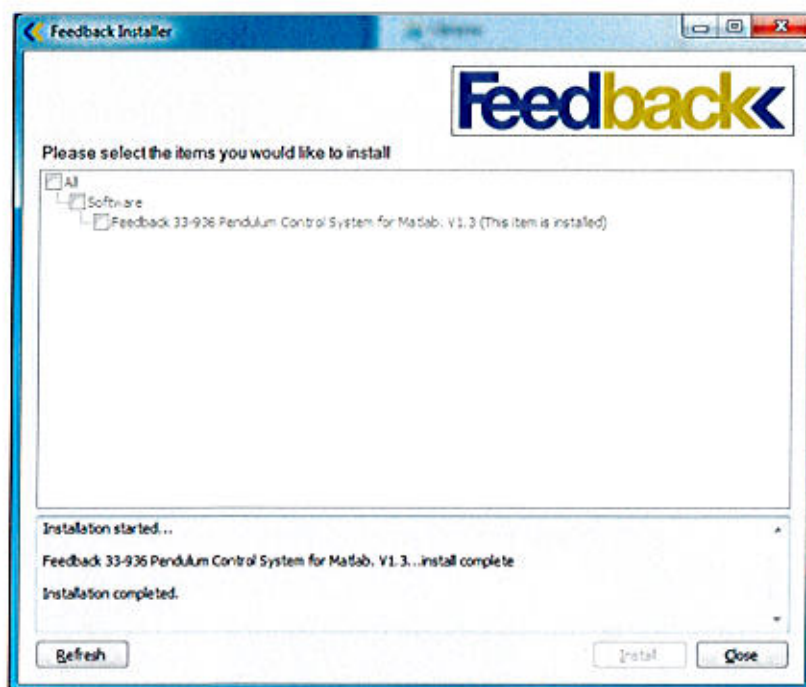

Figure 22 Program Installation Manager window
7. When software is installed the 'Program Installation Manager' will show the software is installed (Figure 22). Click 'Close' the installation manager.